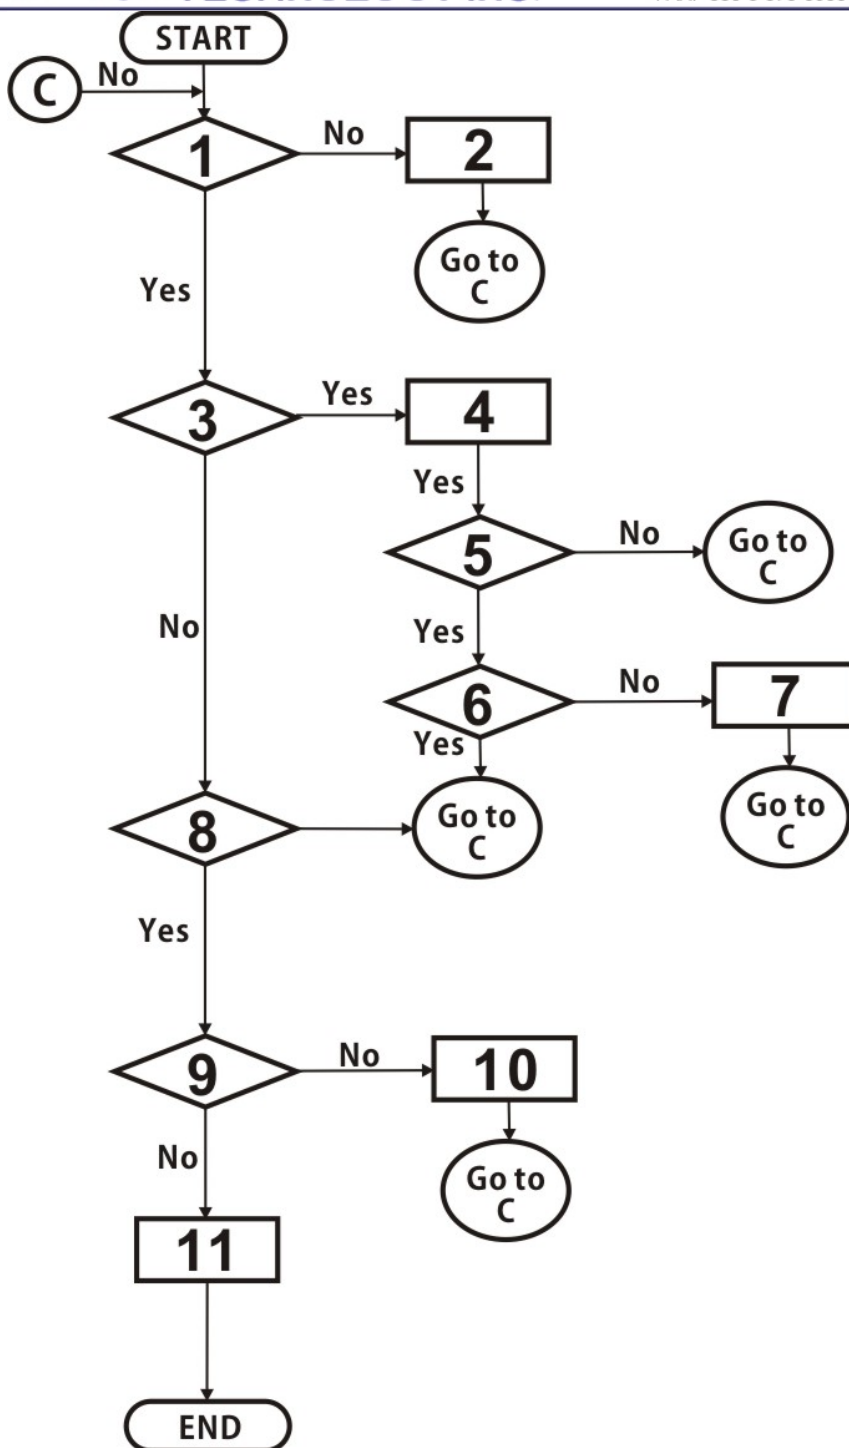

Figure W-8 Line Mode Examination Flowchart
13.7.2 Line mode examination (please refer to flowchart Figure W-8)